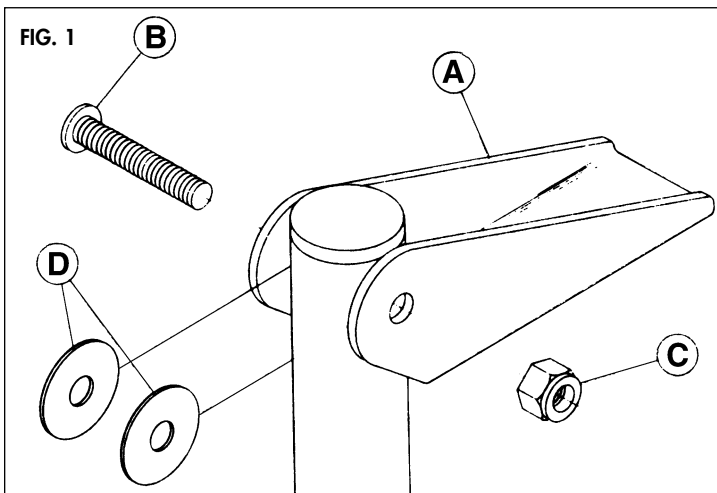

FIG. 1
1. Attach both mounting brackets (A) to the ladder verticals as illustrated in Fig. 1. Be careful to note the ladder's hinge's direction for proper orientation (see Fig. 2). Use screws (B) and nuts (C). Finger tighten only.
6. Reattach ladder to the mounted brackets again using screws (B), washers (D), and nuts (C) as in Fig. 1.